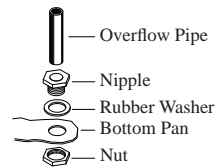

Fig. 4
- **Install overflow assembly.** Place the nipple through the hole in the pan, with the rubber washer between the pan and the head of the drain nipple (Fig. 4). Screw the nut onto the nipple and draw up tight against bottom of pan. Insert the overflow pipe in the nipple to retain water. The overflow pipe may be removed to drain pan when necessary. A garden hose may be screwed onto the drain nipple to drain water away from your unit.